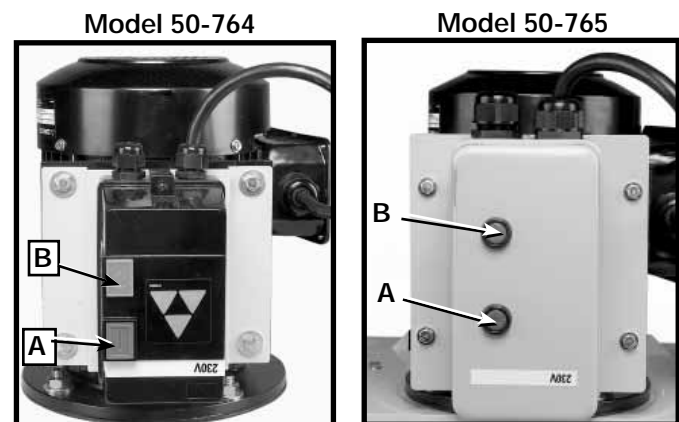
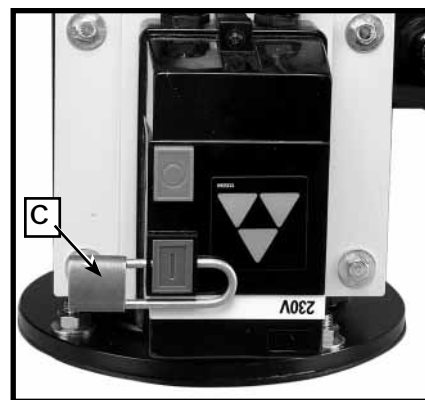

Fig. 17
Fig. 18
- The on (A) and off (B) buttons are located on the front of the motor housing as shown in Fig. 17. To turn the machine "ON", push the "ON" button (A).
- To turn the machine "OFF", push the off button (B).
IMPORTANT: When the machine is not in use, the "ON" button (A) Fig. 17 should be locked to prevent unauthorized use, using a padlock (C) Fig. 18 with a 3/16" diameter shackle through the hole beside the button.